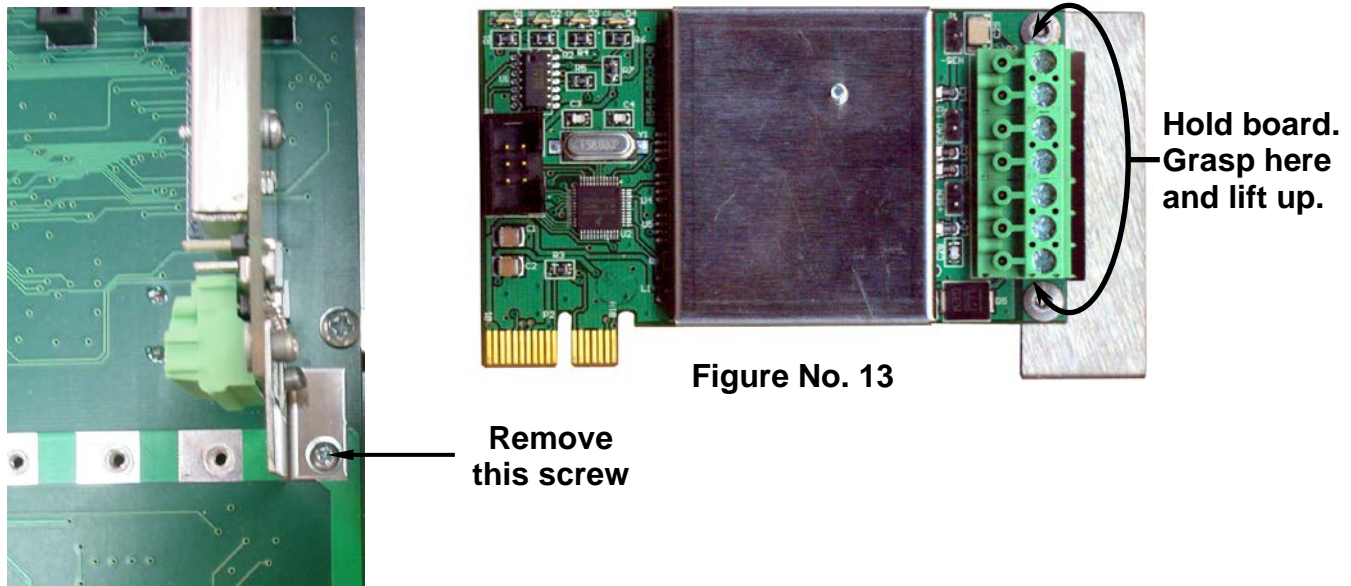

Figure No. 10
3. Referring to Figure No. 10, route the single cable from the load cell or load cell junction box through the nut and plastic insert and into the base enclosure.